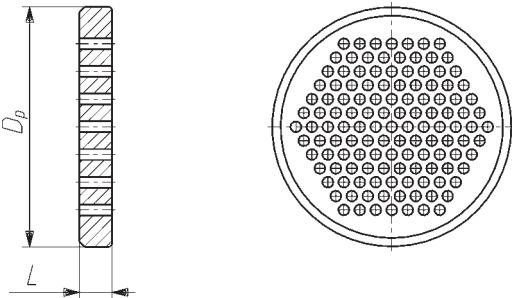

Fig. 3
2. Silencer plates on the valve outlet and/or inside the reduction joint (figs. 3, 4 and table 7)